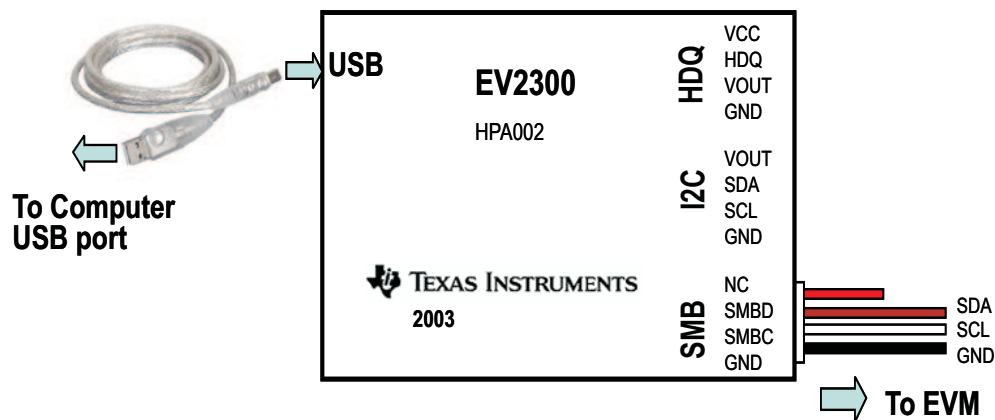

Figure 1. Connections of the EV2300 Kit
- (j) Connect J2 (SDA, SCL) and J3 (GND) to the EV2300 kit "SMB" port. Connect the USB port of the EV2300 kit to the USB port of the computer. The connections are shown in Figure 1.